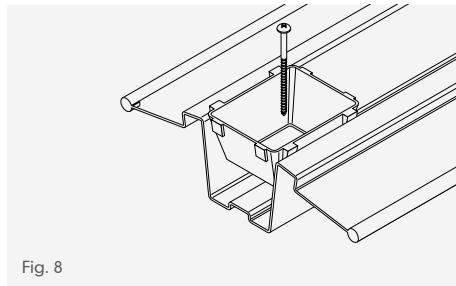

Fig. 8
- 11 Position first expansion block at eaves, a maximum 185mm from mitred end of batten section. Note the orientation of the fixing/expansion block (as shown in Fig. 8).